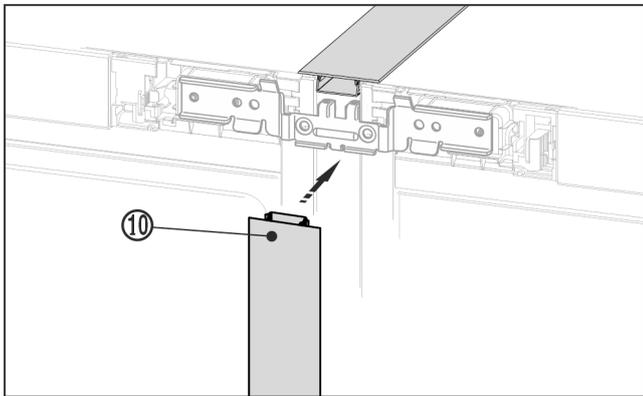

Fig. 23
- ▶ On the front, press the long cover strip Fig. 23 (10) into the vertical gap. Ensure that the strip rests on the connecting plate.